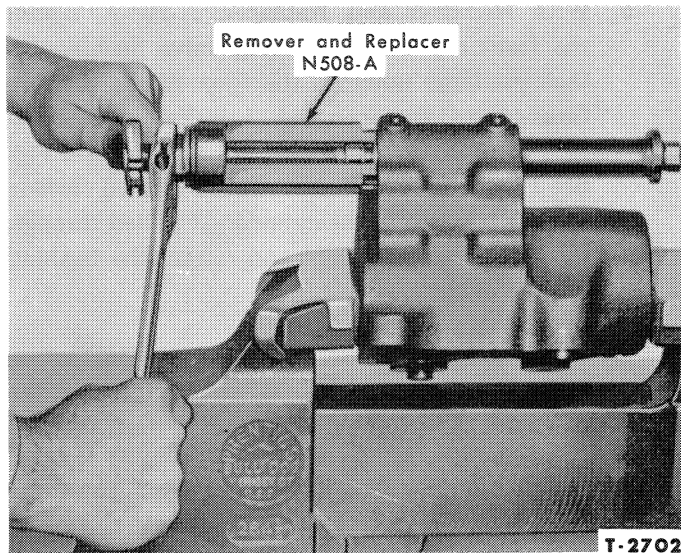
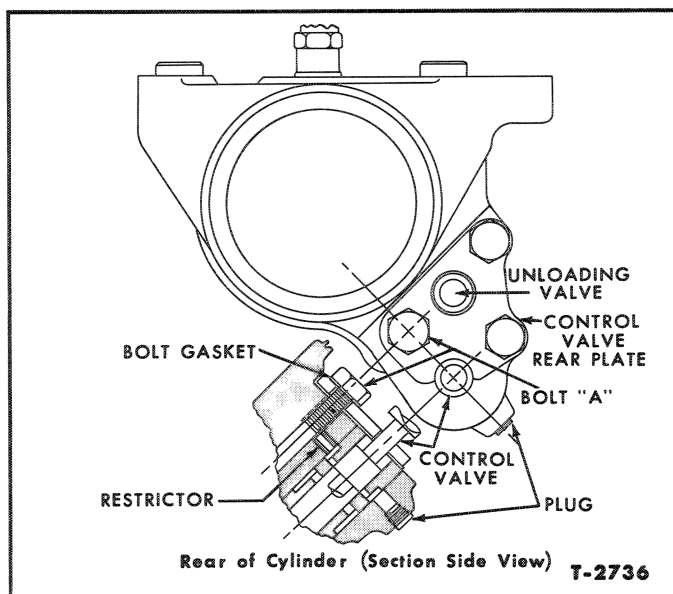

Figure 11—Removing Control Valve Bushing
Figure 12—Restrictor—Installed
5. Remove the control valve bushing with Remover and Replacer, N-508-A, Figure 11. If the lift cylinder is equipped with a special control valve to obtain slower hydraulic action, remove the plug and restrictor from the lift cylinder, Figure 12.
3. Install the cylinder flow restrictor in the drilled passage which joins the control valve bushing bore to the drilled passage in which the hex head bolt "A" is installed, Figure 12. This is accomplished by removing the Allen head plug at the plate end of the cylinder and pressing the
10. Secure a new gasket and rear plate to the cylinder assembly with bolts and a new special steel washer as shown in Figure 12. Install the copper washer over the safety valve and screw it into position in the lift cylinder.